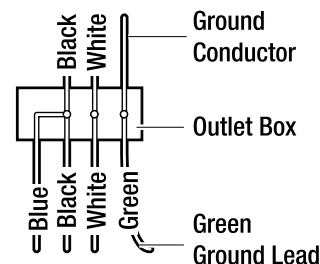

Figure 11
- Connect the fan supply (black) wire and light supply (blue) wire to the black household wire as shown in Figure 11. Do not connect the blue wire if the light kit is not used.
- After connecting the wires, secure the wire nuts (BB) with electrical tape and spread them apart so the green and white wires are on one side of the outlet box and the black and blue wires are on the other side. (i.e., grounded conductor on one side and hot wires on the other side.)
- Turn the wire nuts (BB) upward and push the wiring into the outlet box.